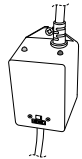

FIGURE 8
20. Once power is activated you can check the ballast (12), Figure 8, to see if the CLEARRAY Active Oxygen™ System is functioning; it has two LED indicator lights the green indicating incoming power flow and the red indicating the system is properly working.